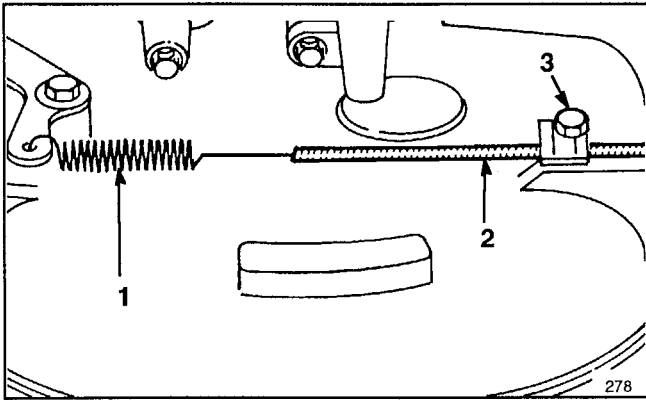

Figure 28
2. Loosen cable clamp screw until brake cable conduit slides (Fig. 28). Pull cable to remove slack, but do not put tension on spring. Tighten screw to lock adjustment in place.